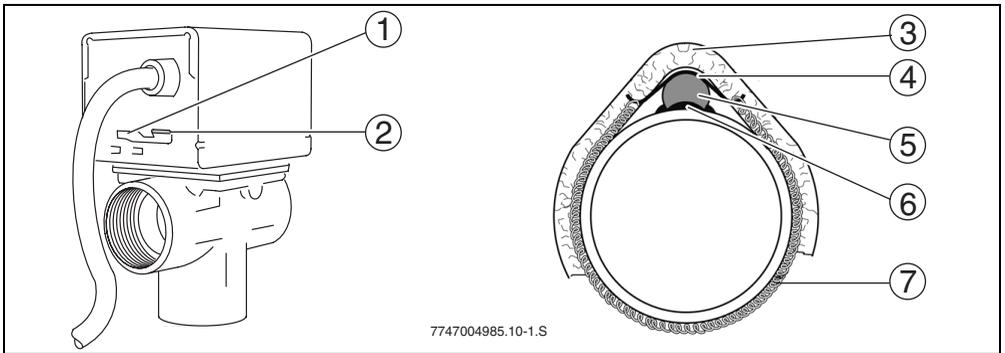
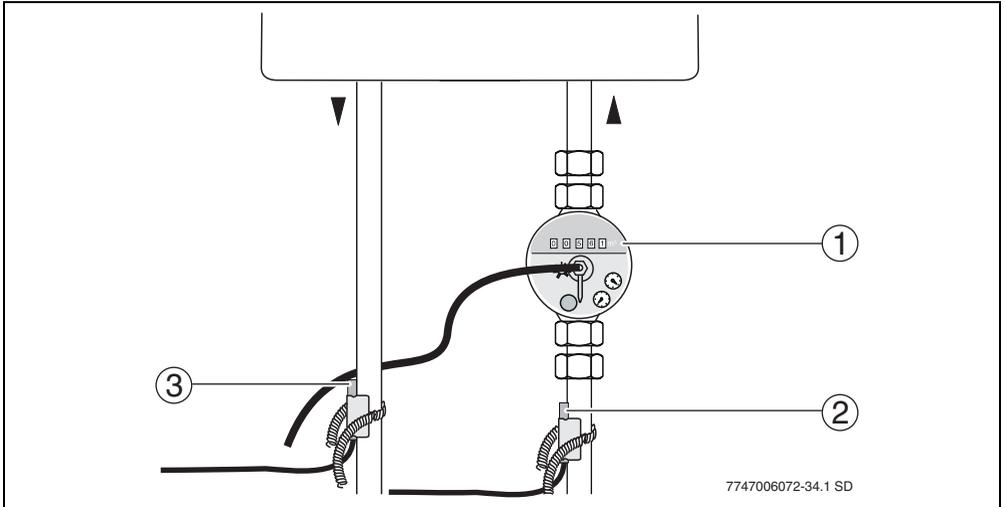

Fig. 5 Diverter valve (left) and fitted temperature sensor (right)
Fig. 7 Fitting the volumetric flow meter and temperature sensors
Use the "MAN" (manual, → Fig. 5, item 2) setting for filling, bleeding or draining the system or as the safety setting when there is a power failure. In the "MAN" position, the valve actuator is in the centre position. This allows even flow of the fluid through both outlet connections.
- For normal operation, set the switch to "AUTO" (→ Fig. 5, item 1).
- Apply heat conducting paste (→ Fig. 5, item 6) to temperature sensor S3 (→ Fig. 5, item 5).
- Fit temperature sensor S3 using retaining plate (→ Fig. 5, item 4) and spring strap (→ Fig. 5, item 7) to the return pipe approx. 20 cm upstream of the diverter valve.
- Provide temperature sensor S3 with insulation at least 20 cm long (→ Fig. 5, item 3).
- Fit volumetric flow meter below the solar pumping station in the solar return pipe (→ Fig. 7, item 1). Pay attention to direction of flow and fitted position (meter dial must not face downwards).
- Fix temperature sensor for solar return (→ Fig. 7, item 2) in position. For details of temperature sensor fixing, refer to page 10, Fig. 5.
- Fix temperature sensor for solar flow (→ Fig. 7, item 3) in position. For details of temperature sensor fixing, refer to page 10, Fig. 5.